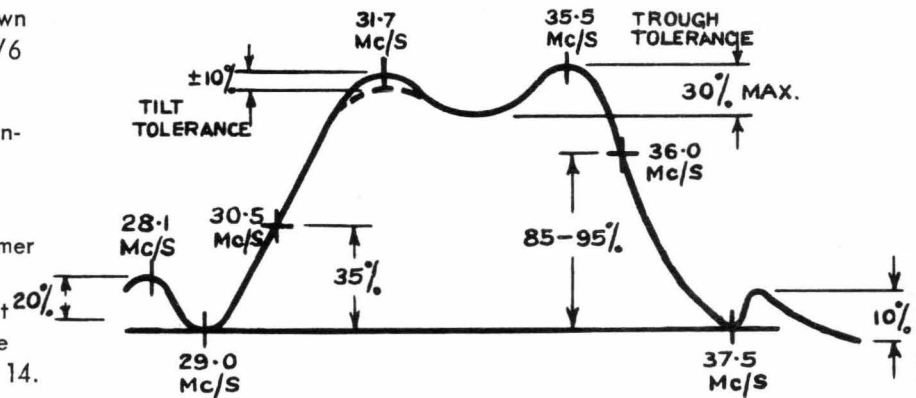

Fig. 14
8. Adjust the converter transformer L7 to peak at 35.5 Mc/s. and the inductance LL5 to peak at 31.7 Mc/s. to produce a curve similar to that shown in Fig. 14.